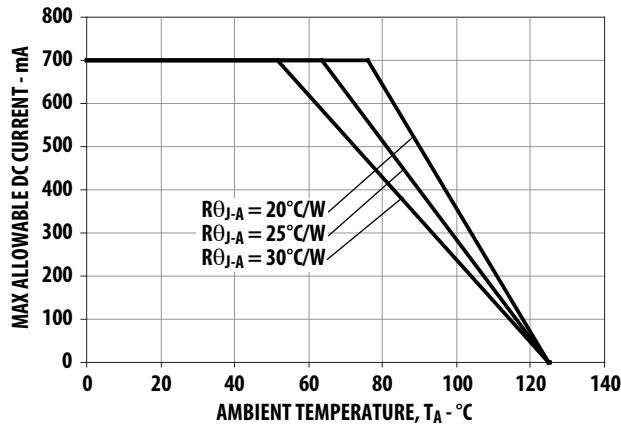
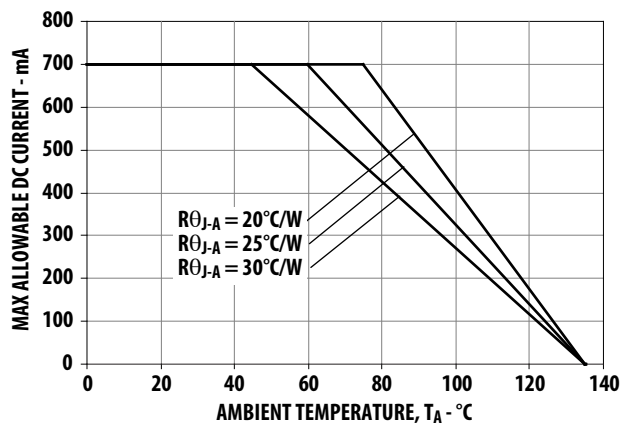

Figure 10. Maximum Forward Current vs. Ambient Temperature.
Figure 20. Maximum Forward Current vs. Ambient Temperature.
- Derate linearly based on Figure 10 for AllnGaP and Figure 20 for InGaN.